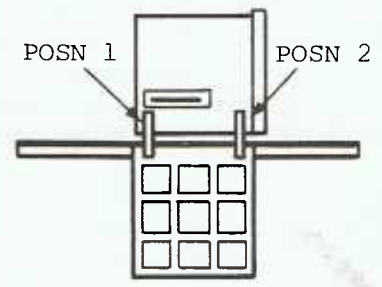
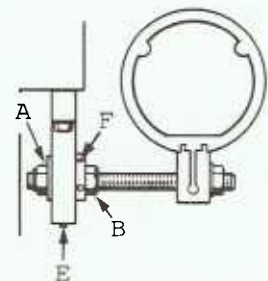
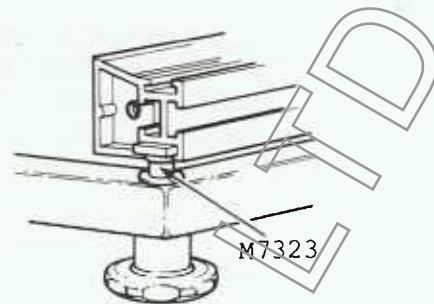

Fig. 3L
Fig. 3h
Fig. 3k
5. The tee clamp assy SM1551 has now to be set so that the sliding table is at the correct height to the machine table. Move the sliding table along slide rail until it is in line with the main table (Fig 3L). Place a straight edge across the main table and over the inboard end of the sliding table (posn 1), slacken nut 'A' & socket set screw 'E' (Fig 3h), rotate cam 'F' to raise or lower table to be in line with main table. Retighten nut 'A' & screw 'E'. Repeat this operation at the front edge of the main table (posn 2).
7. Fit the cross cut fence as shown in Fig 3k. Slide 2 off location pins M7323 into tee slot on lower face of cross cut fence, fit 1 off .015" shim washer onto each location pin and then lower pins through reamed holes at front of table (a range of holes are drilled in the table for cutting at 0°, 15°, 30° & 45° from the front or rear fence positions). To lock the fence in position, fit and tighten the two M10 locking knobs.
8. The sliding table motion must be set parallel to the line of the saw blade cut, adjustment may be necessary to jack one end of the long table rail towards or away from the saw blade. The mitre gauge slots in the main table may be used as datums for checking alignment. Move the sliding table along the slide rail until it is in line with the main table (Fig 3L). Undo the cross cut fence locking knobs (Fig 3k) and slide fence inwards until the end is in line with one side of the mitre gauge slot and retighten the locking knobs. Now move the sliding table forwards checking that the fence remains in line with the slot, if not adjustment must be made to the slide rail as follows:-Slacken off lock nut 'A' (Fig 3h) at posn 1 on sliding table (Fig 3L) and adjust nut 'B' in or out until the end of the fence runs parallel with the mitre gauge slot. Retighten nut 'A', check squareness and readjust if necessary.